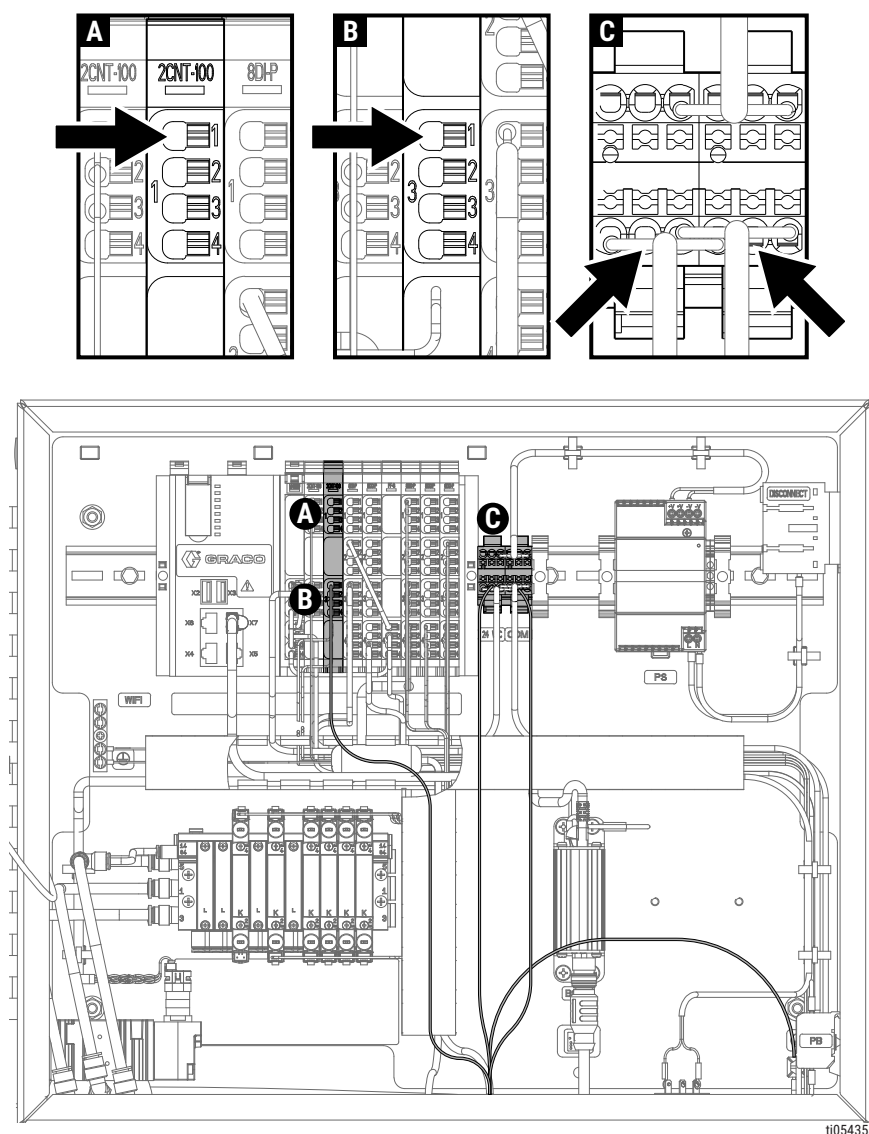

FIG. 11.
Route the cables into the ProMix-V cabinet from the bottom. Refer to FIG. 11.
3. Connect the ground cable to the green ground screw as shown in FIG. 11.